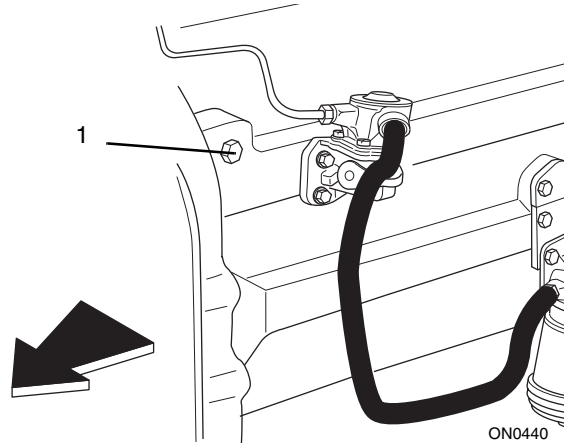

Figure 10-23 Cylinder Block Drain Plug
7. Place another suitable container under the engine coolant drain plug (Fig. 10-23, 1) on the left side of the cylinder block. Remove the plug (1) and drain the block completely.